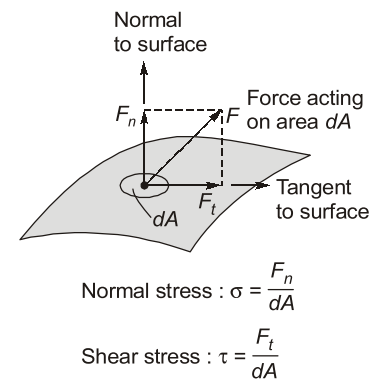

Figure 2.1 Components of a force
- The normal component of a force acting on a surface per unit area is called the normal stress, and the tangential component of the force is called shear stress (Figure 2.1).